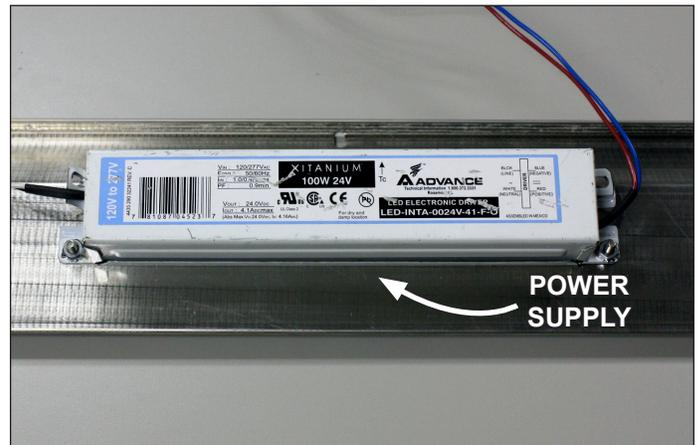

Fig. 23 Clear view of the power supply on the back side of the light reflector
3. Disengage the front edge of the light reflector by lifting it free of the front channel hinge, then carefully remove. Ballasts/power supplies will now be visible on the back-side of the reflector (Fig. 23).